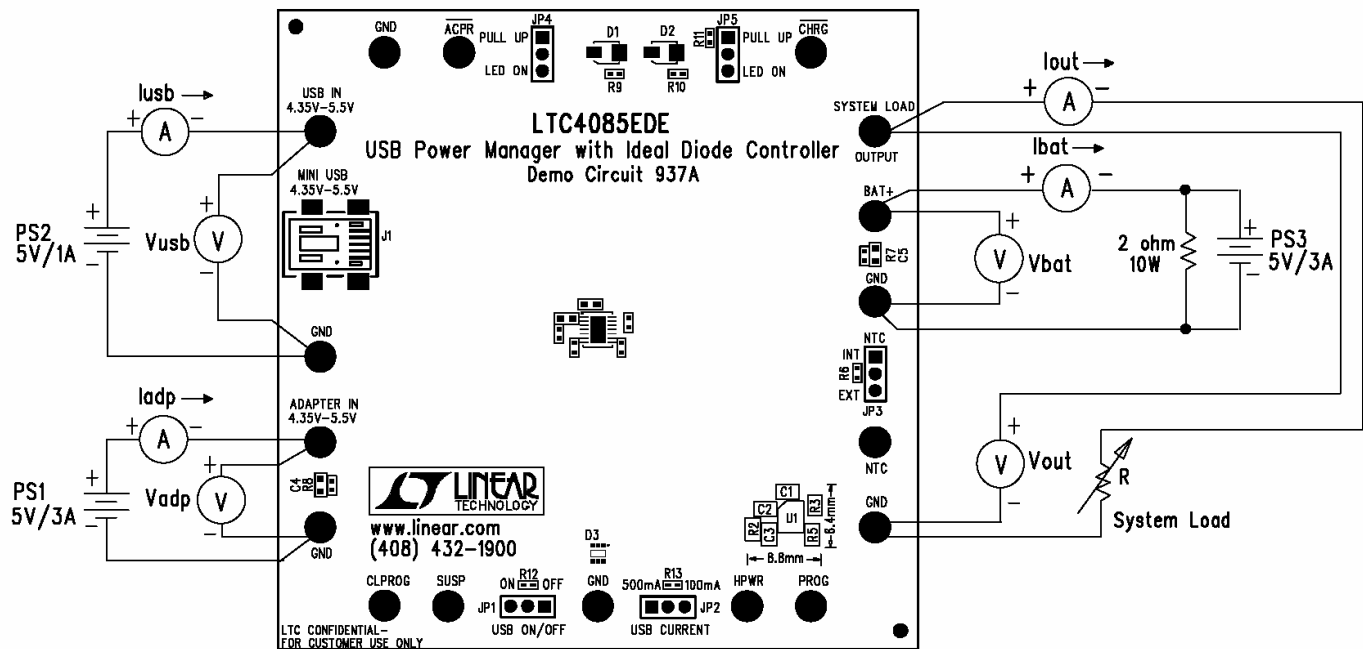

Figure 1. Proper Measurement Equipment Setup
Demonstration circuit DC937A is easy to set up to evaluate the performance of the LTC4085. Refer to Figure 1 for proper measurement equipment setup and follow the procedure below:
1. Connect input power supply, meters and output load as shown in Figure 1.